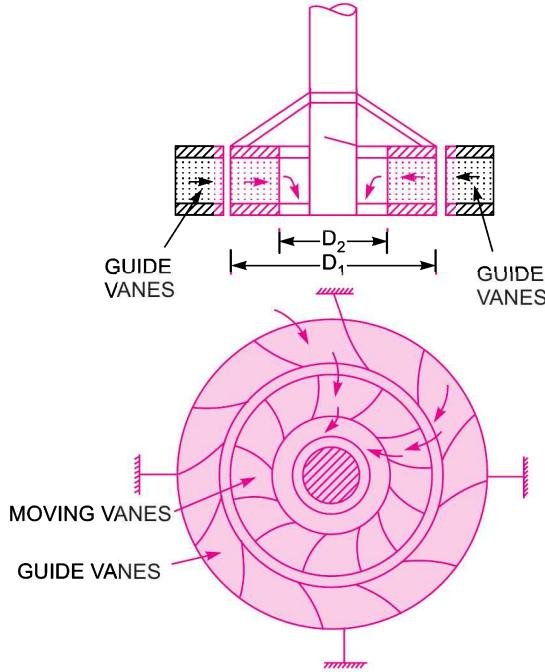

Fig. 18.11 Inward radial flow turbine.
18.7.2 Inward Radial Flow Turbine. Fig. 18.11 shows inward radial flow turbine, in which case the water from the casing enters the stationary guiding wheel. The guiding wheel consists of guide vanes which direct the water to enter the runner which consists of moving vanes. The water flows over the moving vanes in the inward radial direction and is discharged at the inner diameter of the runner. The outer diameter of the runner is the inlet and the inner diameter is the outlet.